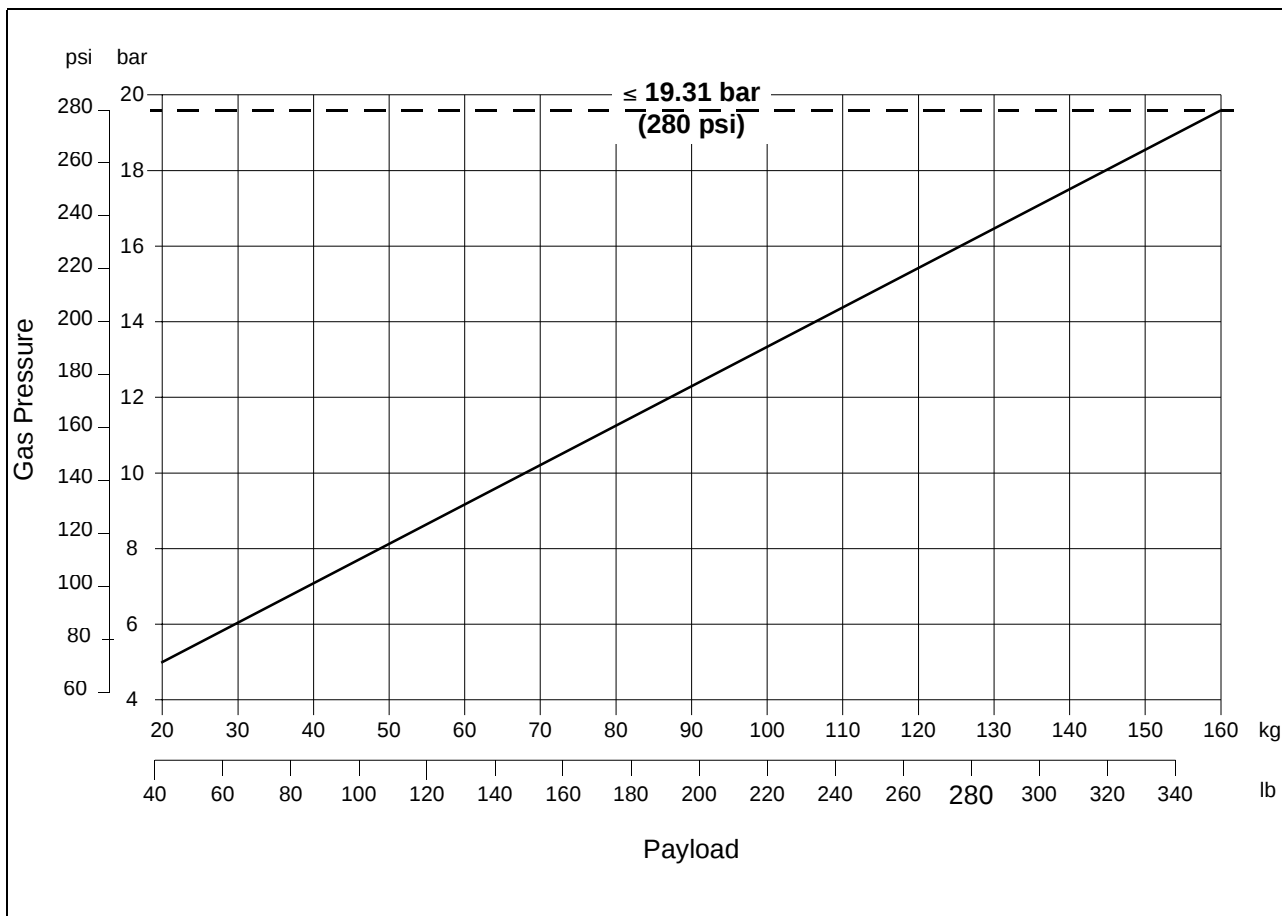

Fig 2.1 Pressurization graph
9.2 Ascertain known payload to be fitted to pedestal (known payload = pan and tilt head, camera, lens and all ancillary equipment). Referring to the graph (Fig 2.1), mark the payload on the horizontal axis then strike a vertical line from the load figure to the balance line. At the intersecting point strike a horizontal line to the vertical axis of the graph and read off the gas pressure. Charge the pedestal gas tank to this pressure.